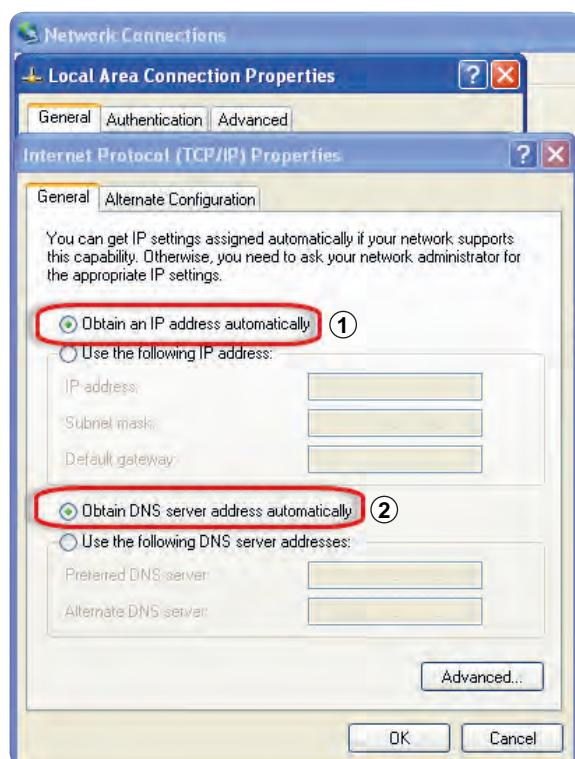

Fig. 4: Set TCP/IP properties slaves
2. Press the radio button **Obtain an IP address automatically** ① (Fig. 4).
3. Press the radio button **Obtain DNS server address automatically** ② (Fig. 4).